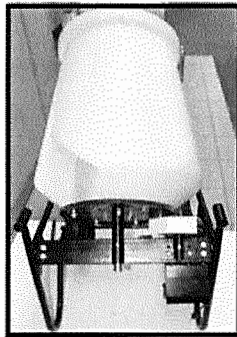

Fig.36: Replace mixing drum.
- b. Replace mixer drum (Fig.36)